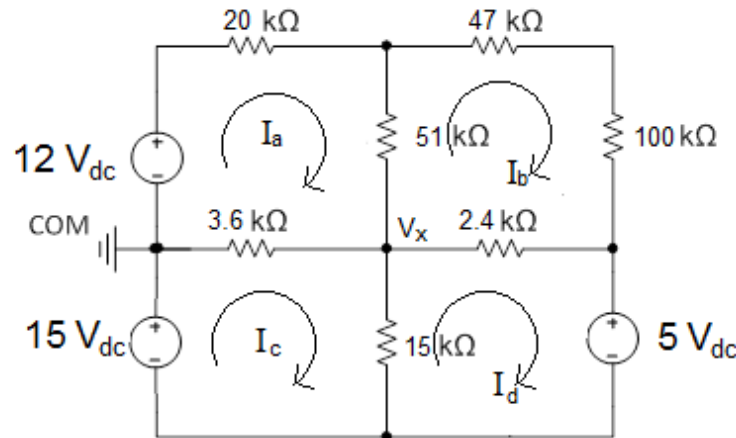

Figure 6-1: Mesh-current circuit
- Copy Figure 6-1 in your lab book.
- Simulate the circuit in Figure 6-1 in NI Multisim and use the multimeter to find the mesh-currents and node voltage, V_x . Summarize the results of your calculations and simulation in a table for comparison.
2.1.1 Build the circuit of Figure 6-1. Measure each of the four mesh currents I_a - I_d . Since a mesh-current is a current that exists only in the perimeter of a mesh you need to set the ammeter in series with an outside branch of the circuit.
- Circuit of Figure 6-1 with all components labeled